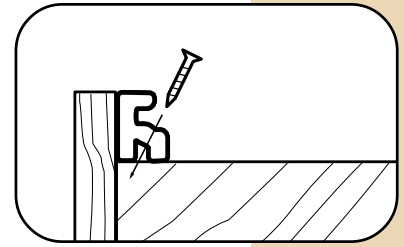

Fig. 18
- Place a TimberTech Starter Strip against the riser board (Fig. 18) and fasten into place, using one #8, 2-1/2" stainless steel or galvanized deck screw per joist.